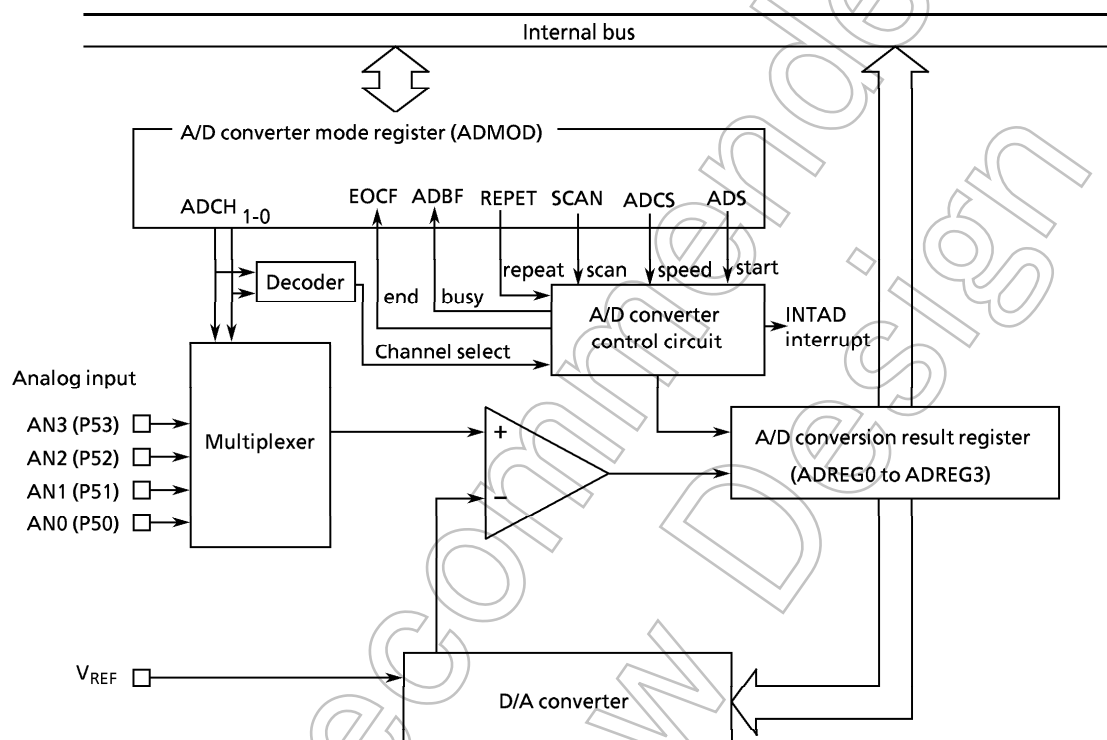

Figure 3.11 (1) Block Diagram of A/D Converter
Figure 3.11 (1) shows the block diagram of the A/D converter. 4-channel analog input pins (AN0 to AN3) are shared by input-only port P5 and so can be used as input port.